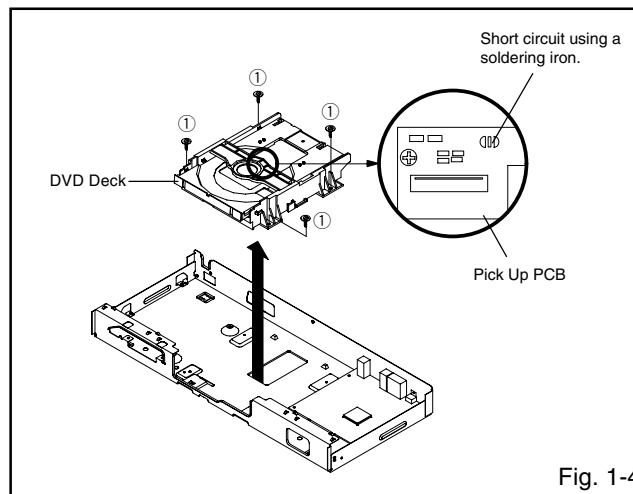

Fig. 1-4
1-4: DVD DECK (Refer to Fig. 1-4)
1. Short circuit the position shown in Fig. 1-4 using a soldering iron. If you remove the DVD Deck with no soldering, the Laser may be damaged.
3. Remove the 4 screws ①.